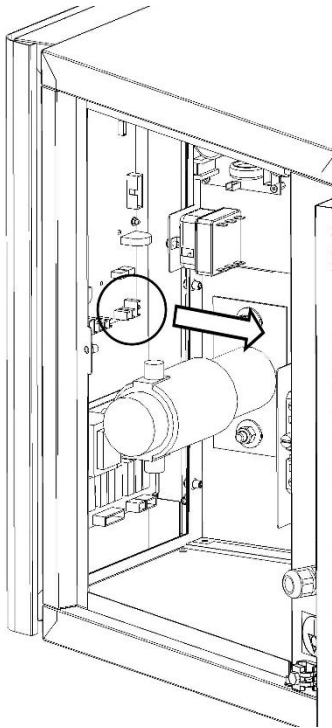

Fig.12A
- 3.Disconnect the electrical connections to the base board (Fig.12A).